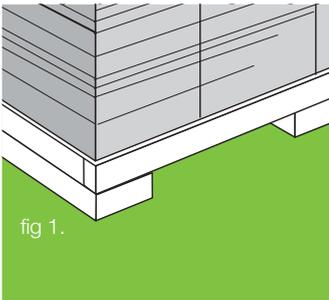

fig 1.
- **COVERED** on a pallet and must not be stored directly on the ground (figure 1).
- **STORED** flat and above ground (figure 1).